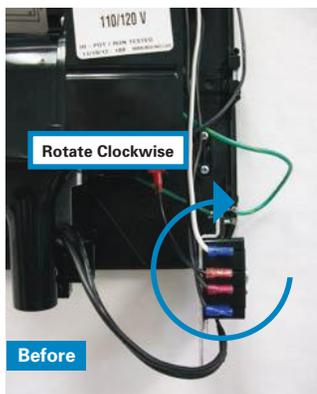

Figure 12A
9. Rotate the Control **clockwise** as shown in **Figures 12A & 12B**. Rotating the Control this way will properly position the wires without having to disconnect and re-connect them. See **Figure 15** for wire orientation.